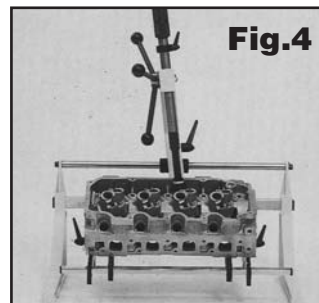

Fig.4
9. For cylinder heads with canted valves (sideways tilted angle) follow this procedure: Loose the locking knob located in the back right side of the "C" frame, and tilt it sideways until reaching the right angle. Place the pressure foot on top of the valve-retainer assembly, and make proper adjustments. Then lock the frame in position with the knob, and proceed with the disassembly / assembly operation (fig. 4)